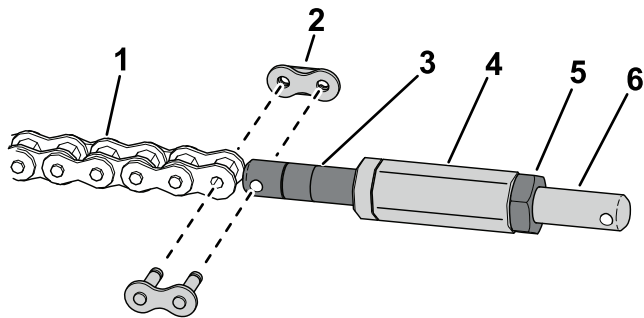

Figure 3
3. Use a chain link to install the chain to the chain turnbuckle (Figure 3).
4. Install the hex shaft to the chain turnbuckle (Figure 3).
5. Use a jam nut to install the chain-link turnbuckle to the hex shaft (Figure 3).